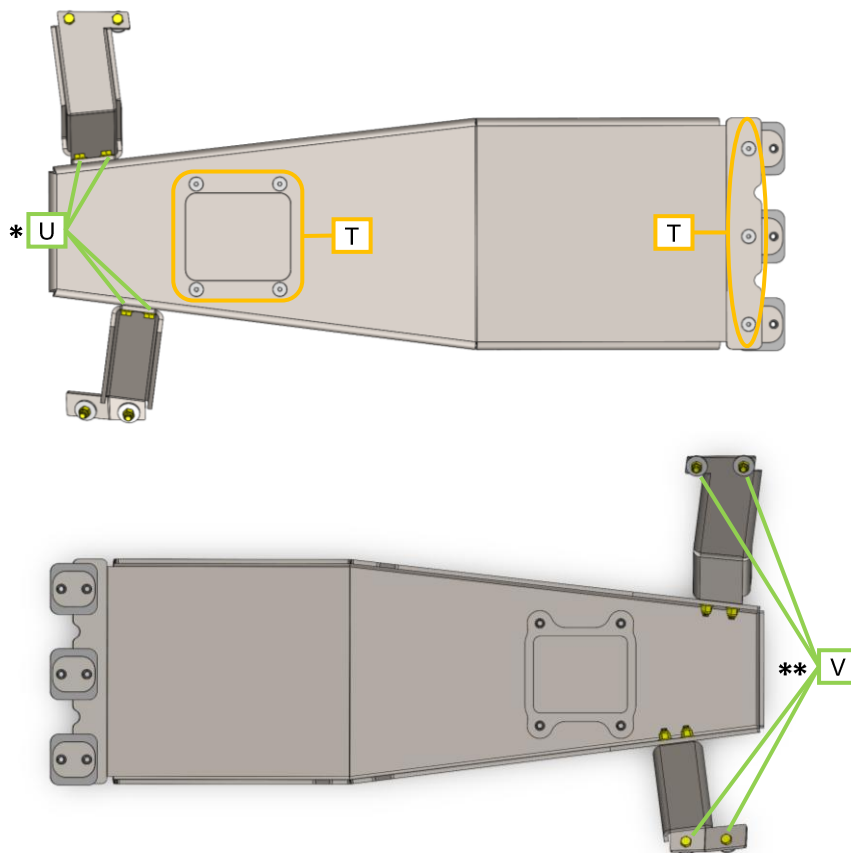

Figure 42: bolt callouts on engine skid plate
35. Proceed with Table 3 while referencing Figure 42. Tighten the engine skid plate hardware to the following specification. **Pay attention to the * notes at the bottom of the page.**